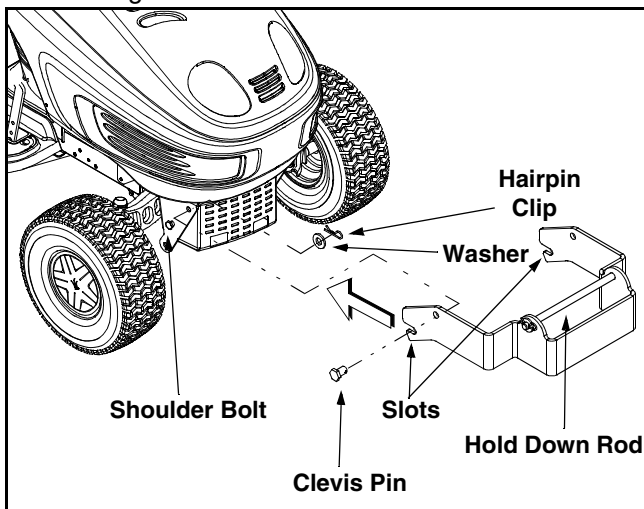

Figure 3
- Position the slotted portions of the weight bracket over the shoulder bolts found on the left and right sides of the tractor's front pivot support brackets. See Figure 3.
- Secure the weight bracket by reattaching the washers and hairpin clips removed earlier. See Figure 3.
- Remove the hairpin clip and washer from one end of the hold down rod on the weight bracket and slide the rod out the opposite side. See Figure 3.